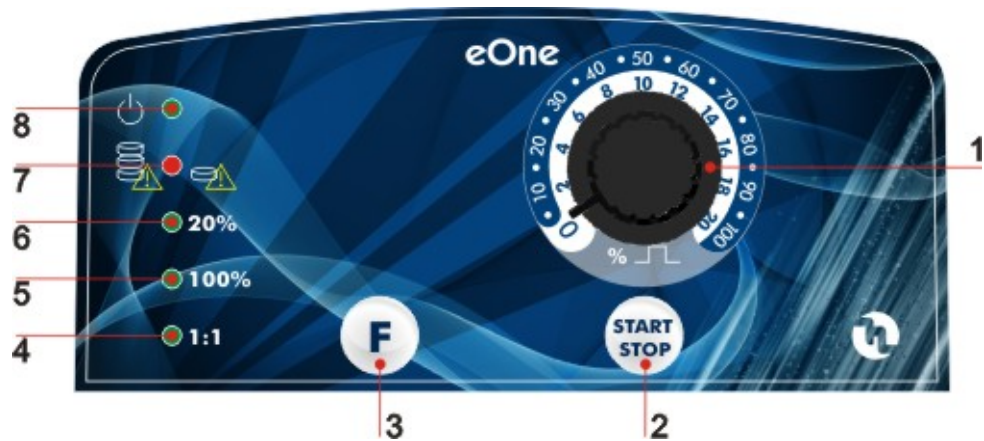

Fig.8 - Commands panel
Avoid unnecessary curves and narrow on both the discharge and suction pipes. Apply a 3/8" or 1/2" BSP female nipple on the conduct of the plant to be treated, in the most suitable location for the injection of the product to be dosed. This nipple is not supplied. Screw the injection valve on the nipple using PTFE tape as a seal (Figure 8). Connect the tube to the conical adapter of the injection valve and secure with the hose ring nut (4). The injection valve is also a no-return valve.